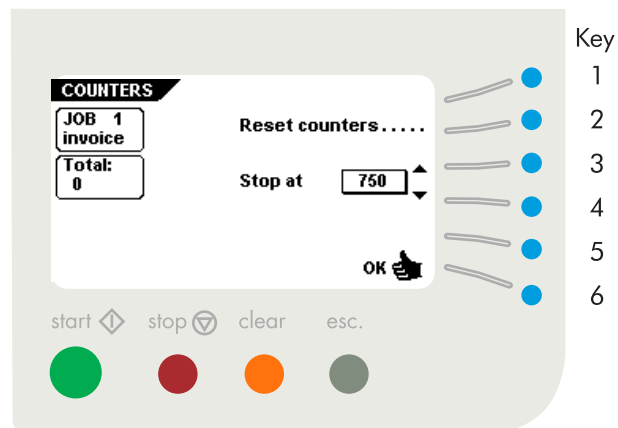

Fig. 23
After pressing key 4 in the "main menu (1)", the display shows the "counters" menu (fig. 23). The "counters" menu shows the following functions:
- reset the daily counter and stopcounter to zero (key 2).
- increase the preset counter (key 3).
- decrease the preset counter (key 4).
- save the counter settings with "OK" (key 6) which will get you back to the "main menu (1)".